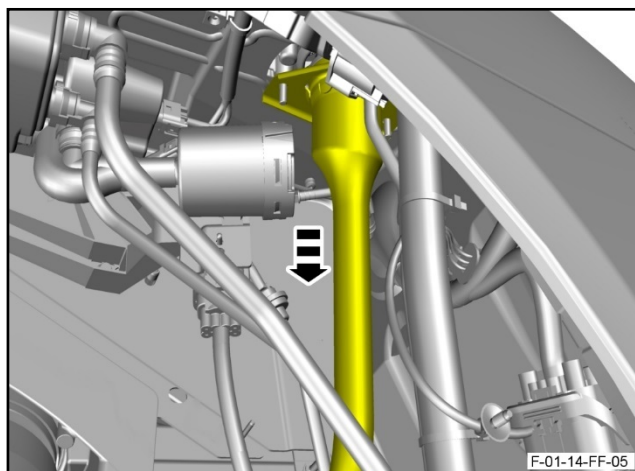

Figure 5
11. Move the fuel filler neck down (refer to Figure 5).